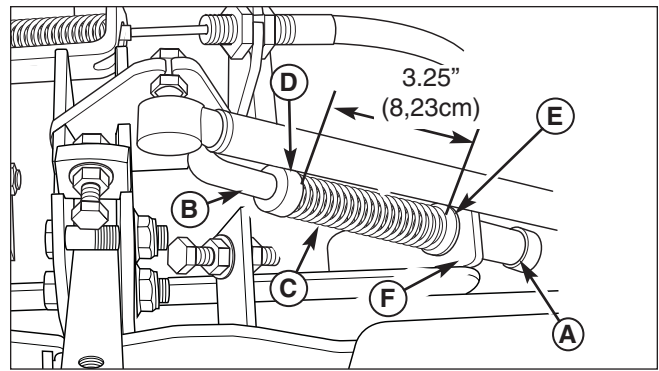

Figure 37. Neutral Return Spring Adjustment
3. Move the ground speed control levers out towards the neutral position. If the levers do not align with the notches in the neutral lock plate, it is necessary to adjust the neutral return rod (B, Figure 37).
2. Measure the length of the neutral return spring (C, Figure 37) it should be set at 3.25" (8,23cm). If the spring does not measure 3.25" (8,23cm) loosen the front set collar (D) and the rear set collar (A), then move the front set collar forward or back on the neutral return rod (B) until the spring length equals 3.25" (8,23cm). Retighten the front set collar.
3. Make sure that the neutral return bushing (E) is seated correctly in the spring stop plate (F).